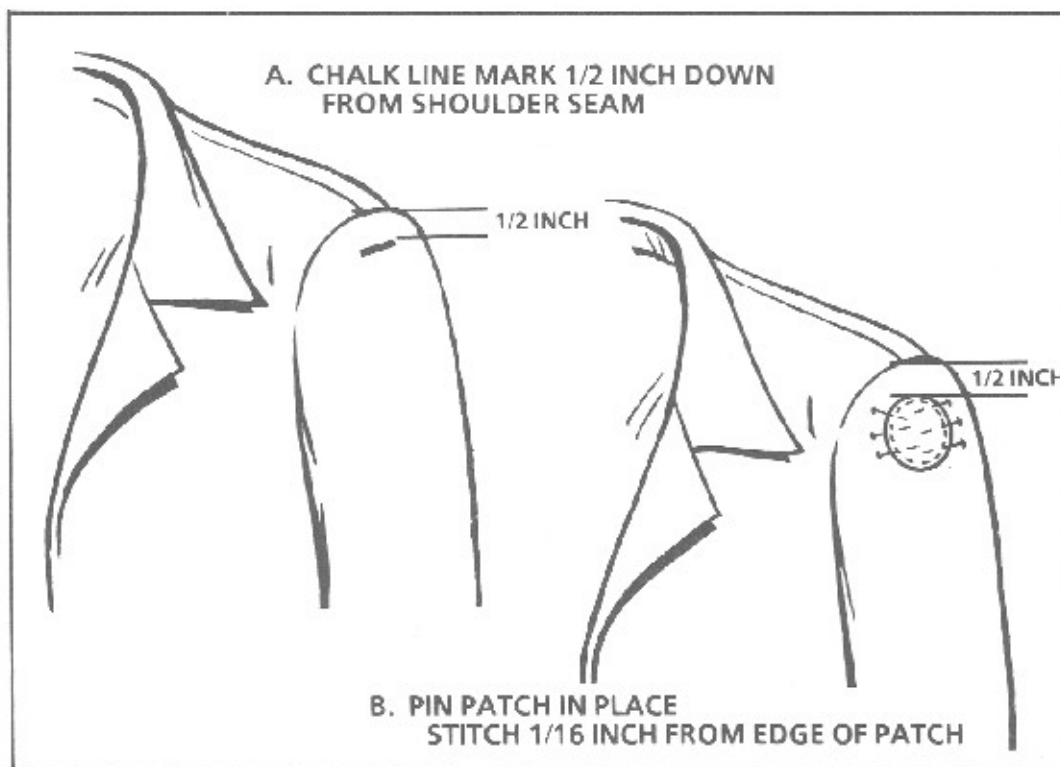

Figure 3-79
- c. Turn the sleeve right side out. Remove all the pins, and cut and remove the loose threads. (See Figure 3-79)